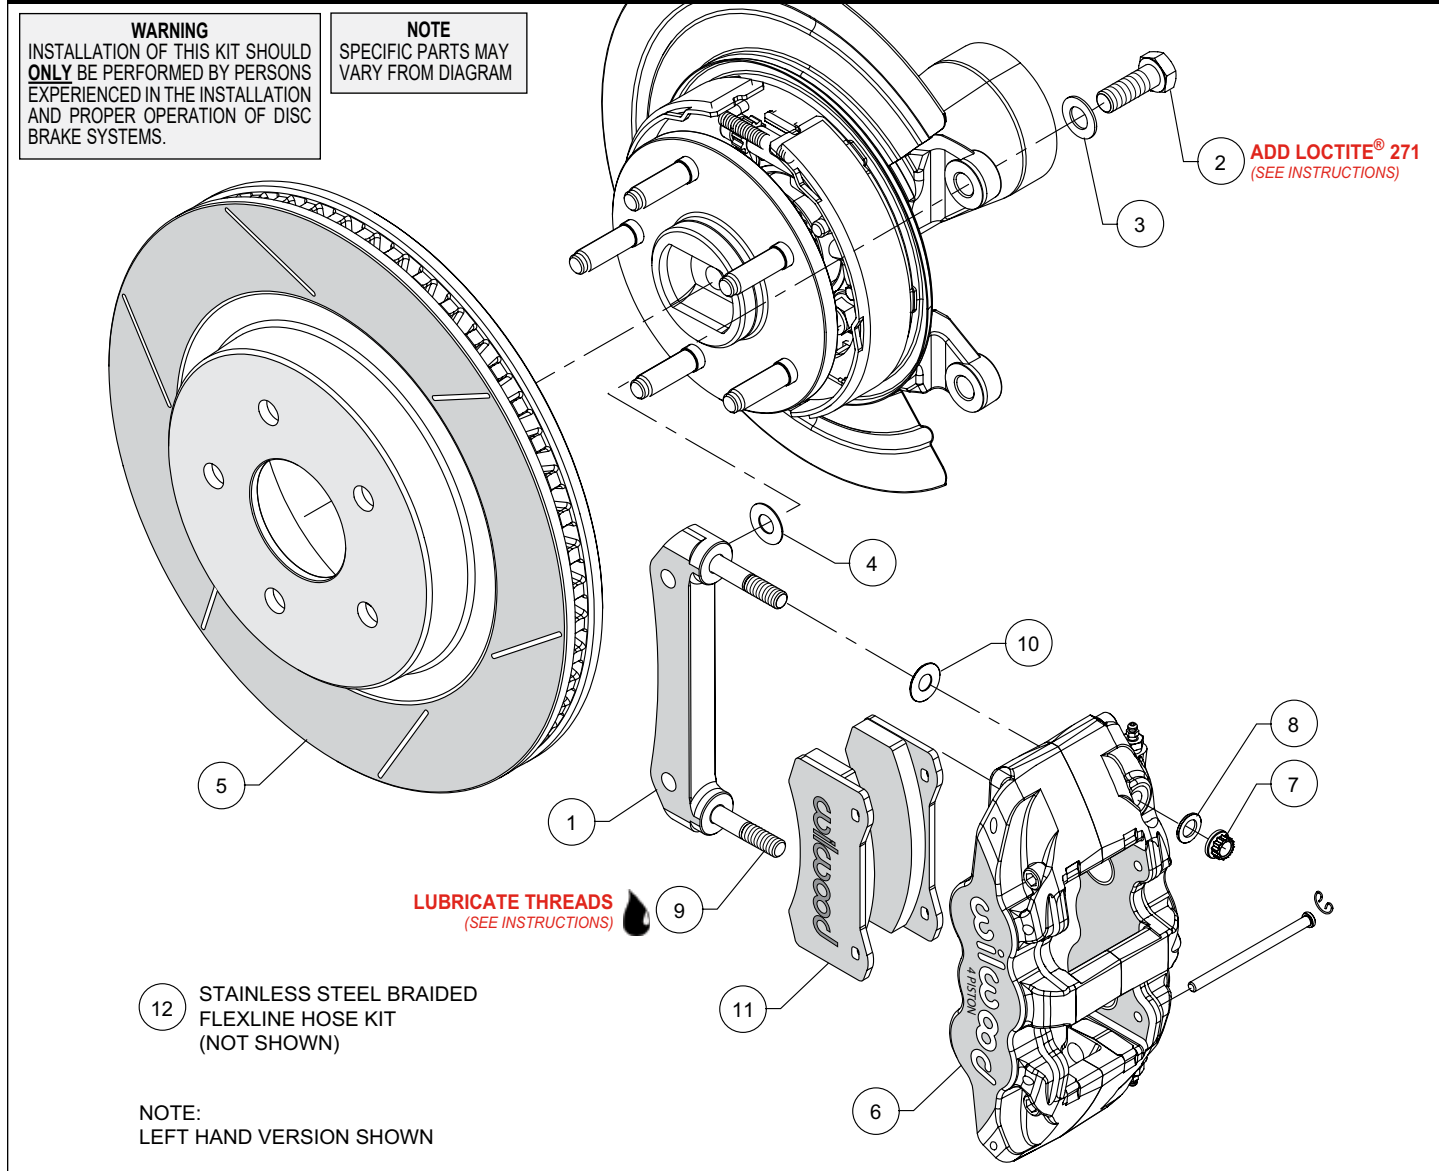

Figure 1. Typical Installation Configuration
NOTE: Numbers in parenthesis refer to the parts list and Figure 1 on the preceding pages.
- The caliper mount bracket (1) should initially be installed with clean, dry threads on the mounting bolts. Orient the bracket as shown in Figure 1 and Photo 1, and install using bolts (2) and washers (3). Initially place one .029 thick shim (4) on each bolt between the bracket and upright, Figure 1. Temporarily tighten the mounting bolts. **NOTE:** The bracket must fit squarely against the mount bosses on the upright. Inspect for interference from casting irregularities, machining ridges, burrs, etc. Later, after the caliper alignment has been checked, the mount bolts will be secured using red Loctite® 271.
- Slide the hat/rotor (5) onto the axle hub. **NOTE:** The hat must fit flush against the axle hub flange or excessive rotor run out may result. Install three lug nuts (finger tight) to keep the hat/rotor assembly in place while continuing with the installation, Photo 2.
- Lubricate the caliper mounting studs (9) with lightweight oil. Initially place one .030" thick shim (10) on each stud as shown in Figure 1 and Photo 3. Mount the caliper (6) onto the bracket (1) using lock nuts (7) and washers (8), Figure 1. Temporarily tighten the lock nuts and view the rotor through the top opening of the caliper. The rotor should be centered in the caliper, Photo 4. If not, adjust by adding or subtracting shims (4) between the bracket (1) and the upright. Always use the same amount of shims on each of the two mounting bolts. Once the caliper alignment is correct, remove the bracket mounting bolts (2) one at a time, apply red Loctite® 271 to the threads, and torque to 105 ft-lb.
- Remove the caliper (6), then remove the two pad retaining pins from the caliper by carefully popping out the pin retaining clips and sliding out the pins. Insert the brake pads (11) into the caliper from the bottom, Figure 1 and Photo 5. With the friction material facing the rotor, secure the brake pads in place with the pad retaining pins and clips, Photo 6. Reinstall the caliper onto the caliper mounting bracket and temporarily tighten the lock nuts. Check that the top of the brake pad is flush with the outside diameter of the rotor, Photo 7. If not, adjust by adding or subtracting shims (10) between the caliper and the bracket. After the caliper pad height is set, torque the caliper lock nuts (7) to 47 ft-lb.